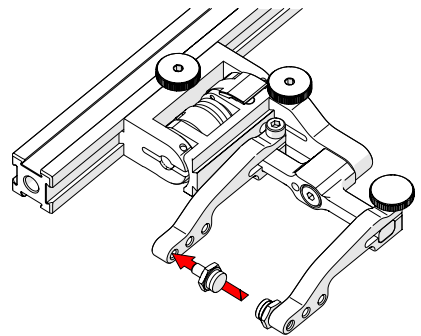

**Fig. 189** - Adjust on frame bar
2. Use the probe holder adjustment knob to position the probe holder along the frame bar (*Fig. 189*).